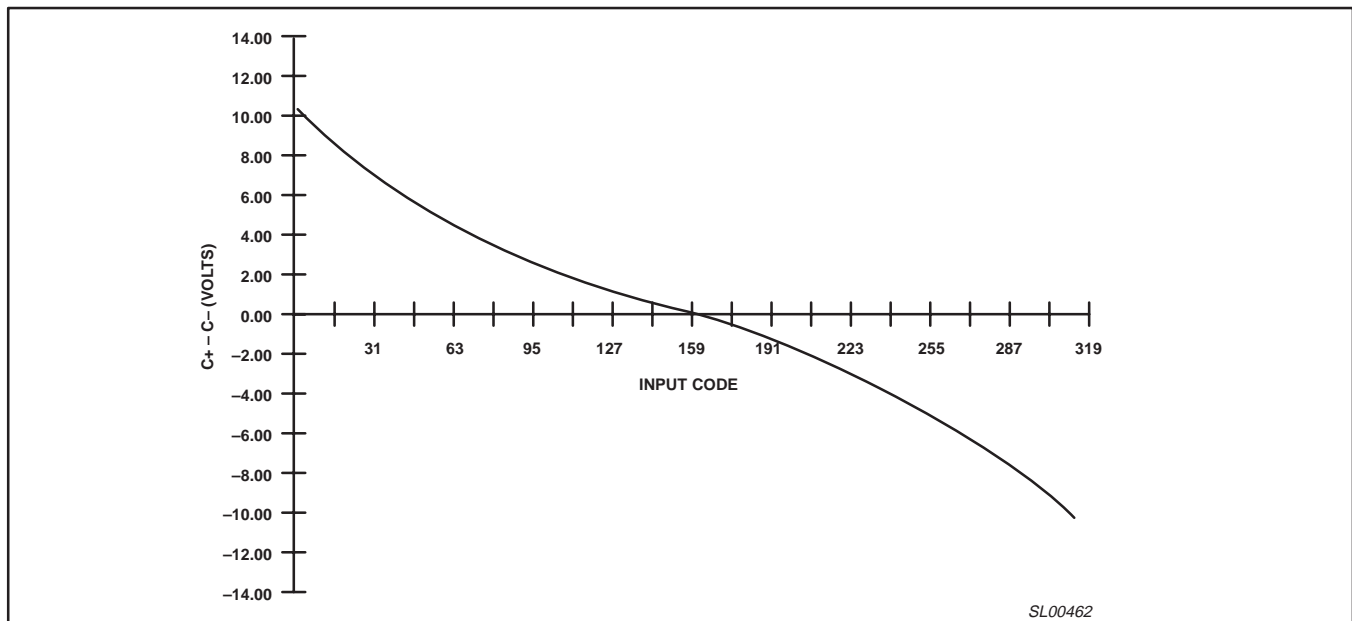
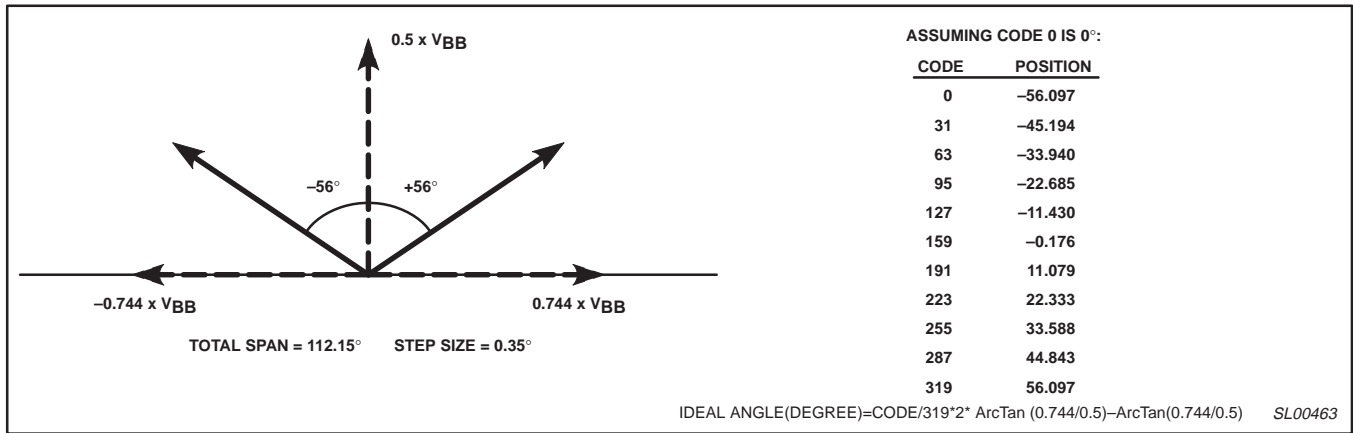

Figure 3. Typical output voltage vs input code ( $V_{BB} = 14\text{ V}$ )
Figure 4. Total span
- In reference to nominal values in Figure 4. (Based on 7+ bit DAC).
The primary function of the SA5777A IC is to generate the transfer function that maps an input code into the correct voltages for linearly controlling the coils of an air-core gauge display (Figure 3). The SA5777A has been implemented using the tangent drive algorithm. Therefore, one coil on each meter will be driven with an output approximating the tangent function, the other coils will be biased at 1/2  $V_{BB}$ . The internal DAC is designed to operate over a 7+ bit (56°) data range. An extended range can be achieved by changing the relationship between the bias coil and the driver coil. As the current through the bias coil is reduced, the full scale deflection is increased. Theoretically, this deflection could approach 180°, but practical limitations of accuracy, resolution, and torque restrict the full scale range to approximately 112° (Figure 4). This full scale range corresponds to a bias coil voltage of 0.5 x  $V_{BB}$  and a full scale tangent voltage of 0.744 x  $V_{BB}$ . The DAC has been tailored to